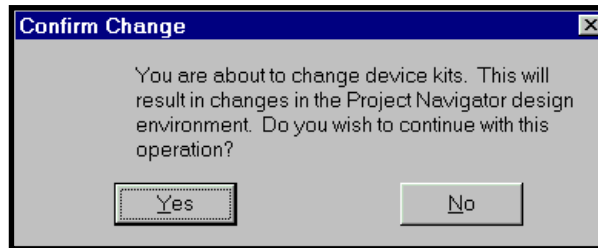

Figure 1-10. Confirm Change Dialog Box
- When you are finished, click **OK**. The Confirm change dialog box appears (Figure 1-10).